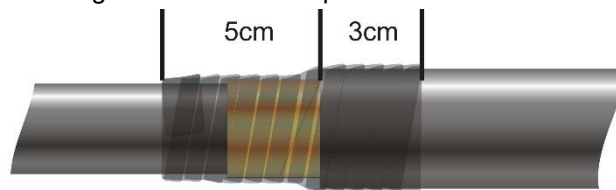

Figure 7.
8. Over wrap back towards the crimp end of the cable, again stretching the tape and with 50% overlap, leaving 5 cm covering the outer copper screen tape and black insulation and 3 cm covering the black outer sheath. This should use approximately another 50 cm of the tape. Wrap another 2 layers, again stretched with 50% overlap back up to where the black outer sheath ends, to build up the cable diameter and to smooth out transitions in diameter. (Fig 7). Cut the tape and press down firmly to ensure it amalgamates with the tape below it.